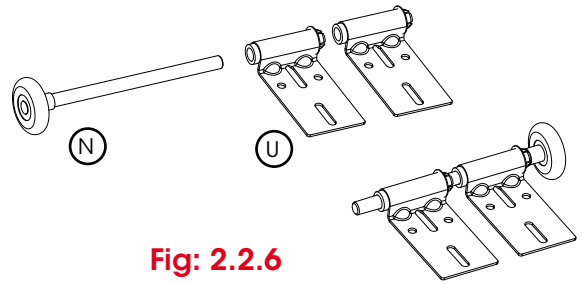

Fig: 2.2.6
- a) Insert the appropriate wheel axle (N) (standard, extended or smooth track) into the top hanger (U) Fig 2.2.6.